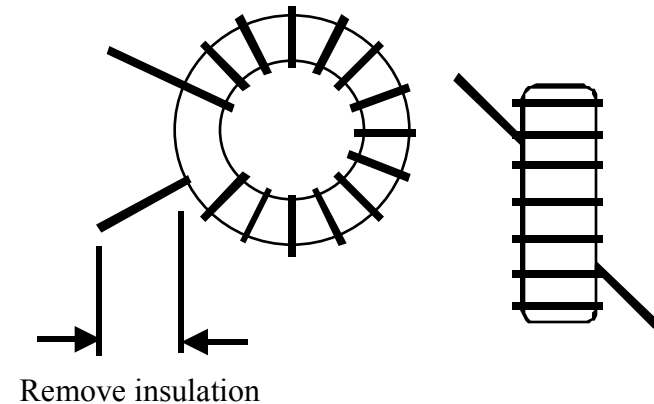

Figure 14
Find the component outline for L18, at the right side of the board near the cutout for power transistor Q1. Compare this component outline to Figure 14, which shows two views of a typical toroidal inductor. L18 will be mounted vertically as shown at the right side of the drawing, with one wire exiting at the core's upper left, and the other at the lower right.
Cut 13 inches (33 cm) of **#22 red** enamel wire. To wind L18, "sew" the long end of the wire through the T44-2 core. *Each pass through the core counts as one turn.* 14 turns are needed, as shown in Figure 14. The enamel insulation will be removed in a later step.
- Strip the leads of L18 as described above. Remove the enamel from the leads up to the edge of the core (see Figure 14).